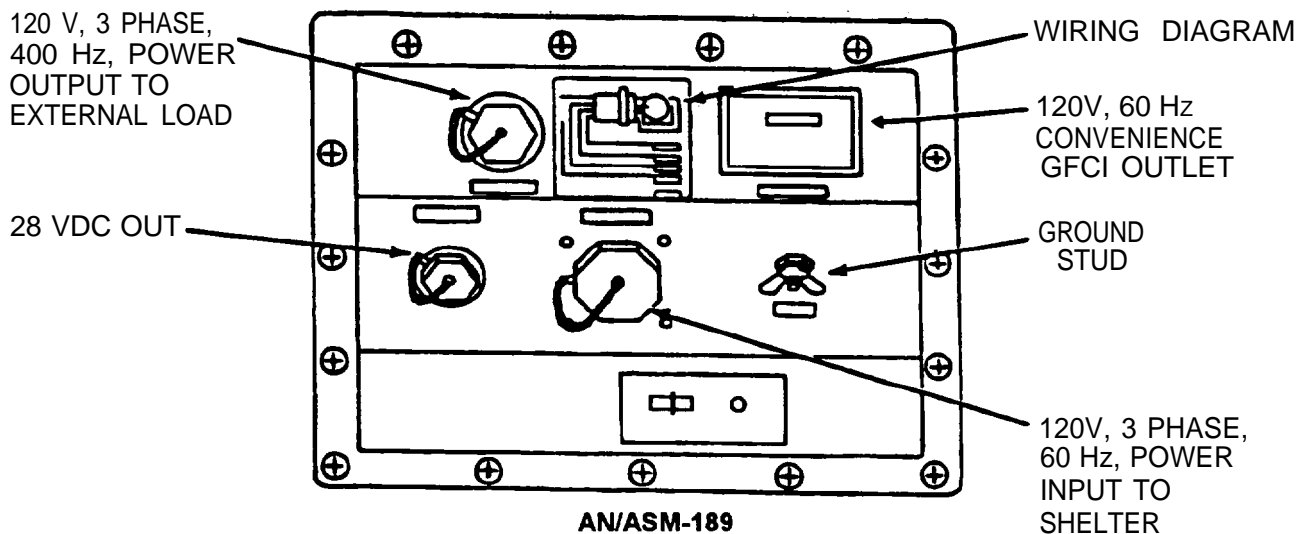

Figure F-2. AN/ASM-189 Power Entrance Box.
c. Power Entrance Box Connectors and Receptacle (fig. F-2):
(3) Connect the connector to the appropriate connector on the power entrance box (fig. F-2).
(1) Earth ground the generator. One of the ground rods and straps supplied with van may be used.
(2) Connect the pigtail leads of the power cable to the power source observing polarity.
(3) Connect the connector to the power entrance box (fig. F-2).